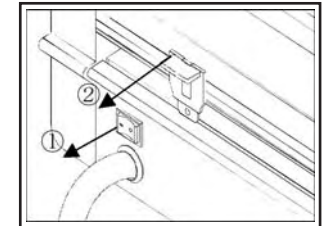

Figure 1
Power Switch (1) - Located on the rear of the machine. "1" (on) "0" (off). (Fig. 1)
Cross Cutter (2) - Used to cut off the laminated web. (Fig. 1)